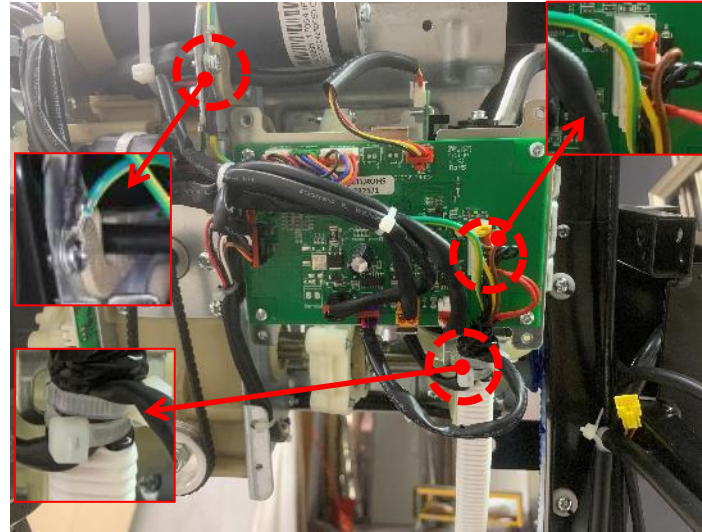

Figure 2
2. Cut off the tie at the red circle, separate the wiring harness plug-in of the manipulator, and remove the ground wire fixing screw (Figure 2)